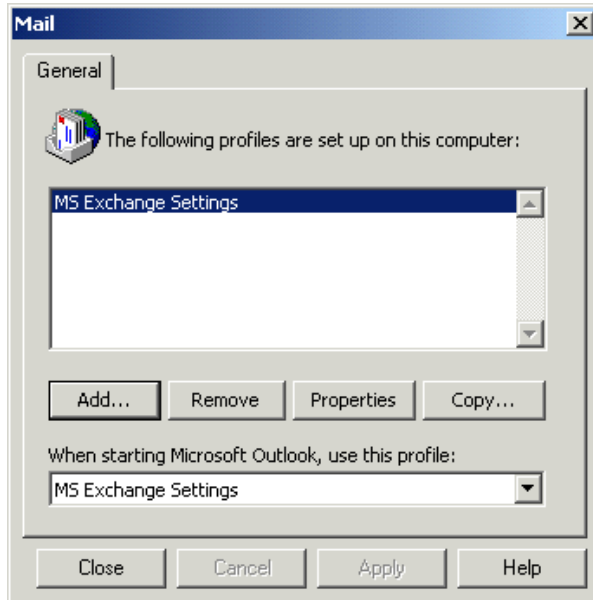

Figure 4-8 Setup complete
7. The completed installation should look like that shown in Figure 4-8.